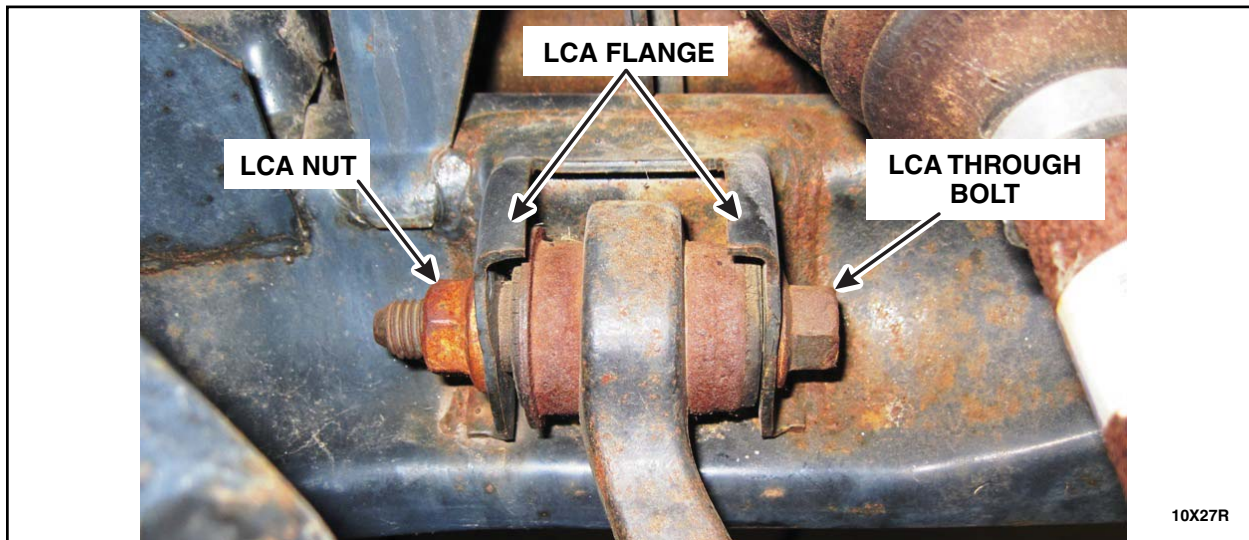

FIGURE 4
4. Remove and discard the LCA through bolt and nut from both the driver and passenger side of the subframe. See Figure 4.